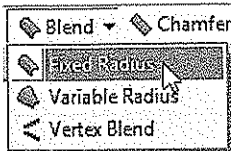

Figure 3-48 Choosing the **Fixed Radius** option from the **Blend** drop-down
1. Choose the **Fixed Radius** tool from the **Blend** drop-down in the **Features** toolbar; refer to Figure 3-48; **FBlend1** is attached to the Tree Outline. Also, you are prompted to select the edges to be blended.